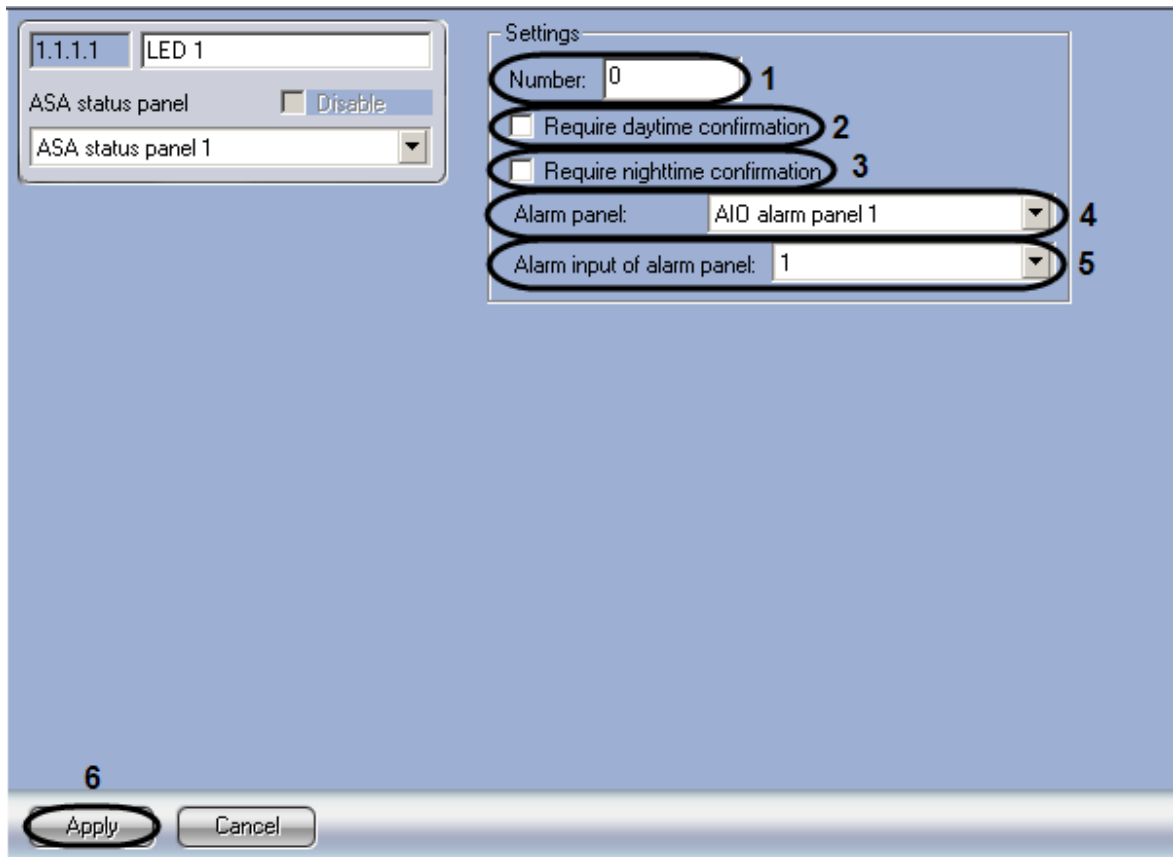

Fig.3.5-8 LED object's settings pane
- Go to the **LED** object's settings panel (Fig.3.5-8).
2. In the **Number** field, enter the sensor's index number (see Fig.3.5-8, 1).
3. If alarms must be confirmed during the day, check the **Require daytime confirmation** option (see Fig.3.5-8, 2).
4. If alarms must be confirmed at night, check the **Require nighttime confirmation** option (see Fig.3.5-8, 3).
5. Select the alarm panel associated with this sensor from the corresponding dropdown list (see Fig.3.5-8, 4).
6. Select the alarm panel input associated with this sensor from the corresponding dropdown list (see Fig.3.5-8, 5).